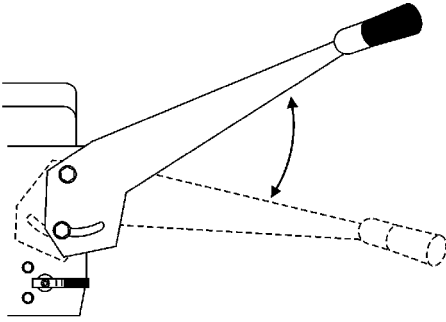

Figure 17. Handle Bar Height Adjustment
2. Move the handle bars (Figure 17) up or down to operator's desired preference.